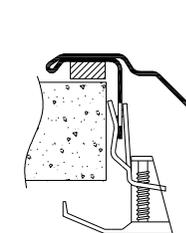

Fig 4
12. Rotate the foot section of the fixing clips 90° towards the worktop (fig. 4). Unscrew the clip to allow the foot to clear the worktop.